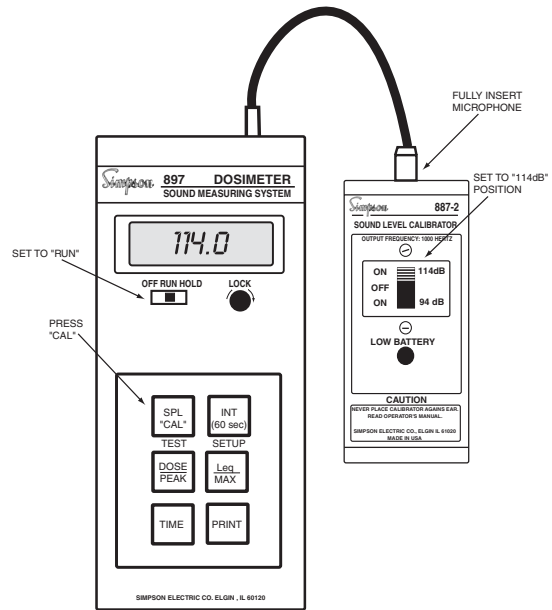

Figure 3-3. 897 Dosimeter Calibration
- a. If using the windscreen, remove and carefully insert the microphone **fully** into the acoustic cavity of the calibrator (Figure 3-3).
- b. Set the calibrator power switch to the "ON" position (Figure 3-3) and check that the calibrator battery is okay. (Refer to paragraph 4.1.)
- c. Set the "OFF-RUN-HOLD" slide switch in the 897 to the "RUN" position. Wait until the Display Test sequence is completed, then depress the SPL (CAL) switch (Figure 3-3).